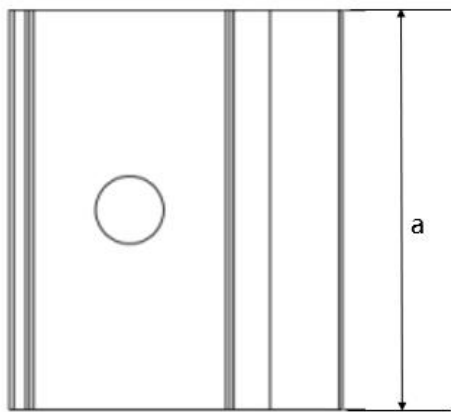
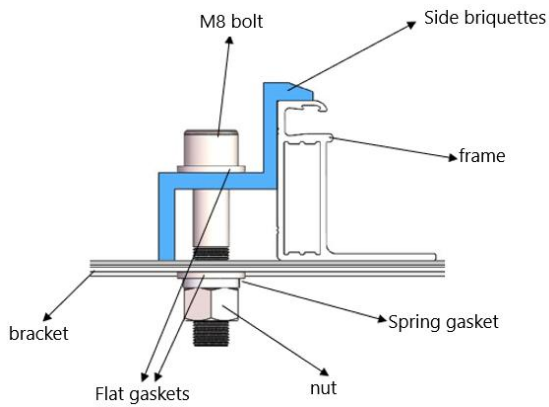

Fig. 7 Top view of fringe clamp
Fig. 11 Installation schematic diagram of fringe clamp
④ If the grooves are not provided, holes of a suitable diameter may need to be drilled to allow bolts attaching to the rail at the same locations as mentioned above.
⑤ Ensure that the mounting sequence of each clamp is in the order of flat washer, spring washer and nut.
⑥ Figures 7~10 show the schematic diagram of the clamp, while Figures 11 and 12 show the installation schematic diagram of the clamp. The dimensions of the clamp are as follows: Length(a) $\geq 50\text{mm}$, with a thickness of at least 4mm, and an overlap with the frame (d) $\geq 10\text{mm}$; or Length(a) $\geq 60\text{mm}$, with a thickness of at least 3mm, and an overlap with the frame (d) $\geq 8\text{mm}$. The clamp section can be changed under the premise of ensuring reliable installation, and it must not extend beyond the frame to avoid contact with the glass.
⑦ Modules sized 2384*1303mm and above are only suitable for a clamp dimension of length(a) $\geq 60\text{mm}$.
⑧ The tightening torque is suggested to be 17~23N · m for Class 8.8 screw and bolts.